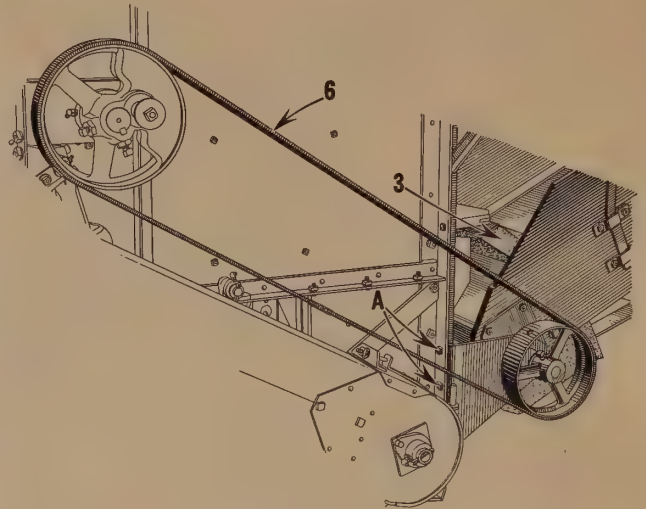

Fig. 24
3. (Fig. 24.) Bolt chaffer shield extension to rear of shoe.
6. (Fig. 24.) Attach carrier drive belt as shown.